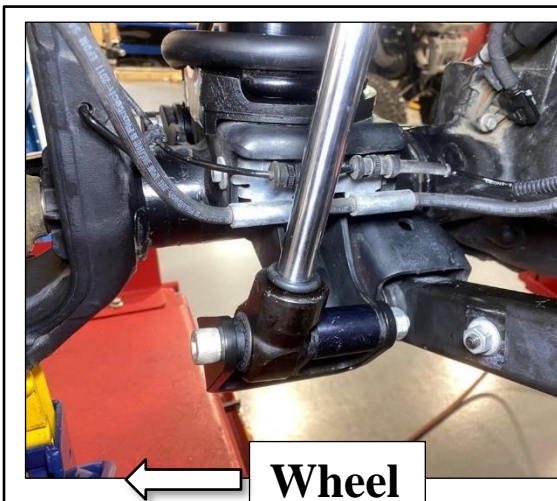

Figure 14 – Driver Side Bottom Mount
- O. Place the spacer in between the flanges of the OE mount. Then position the shock's lower mount outside of the OE mount as shown in Figures 14 & 15. The rod will be positioned rearward and inboard of the lower eyelet's center. Secure the eyelet with the M12 bolt and nut.